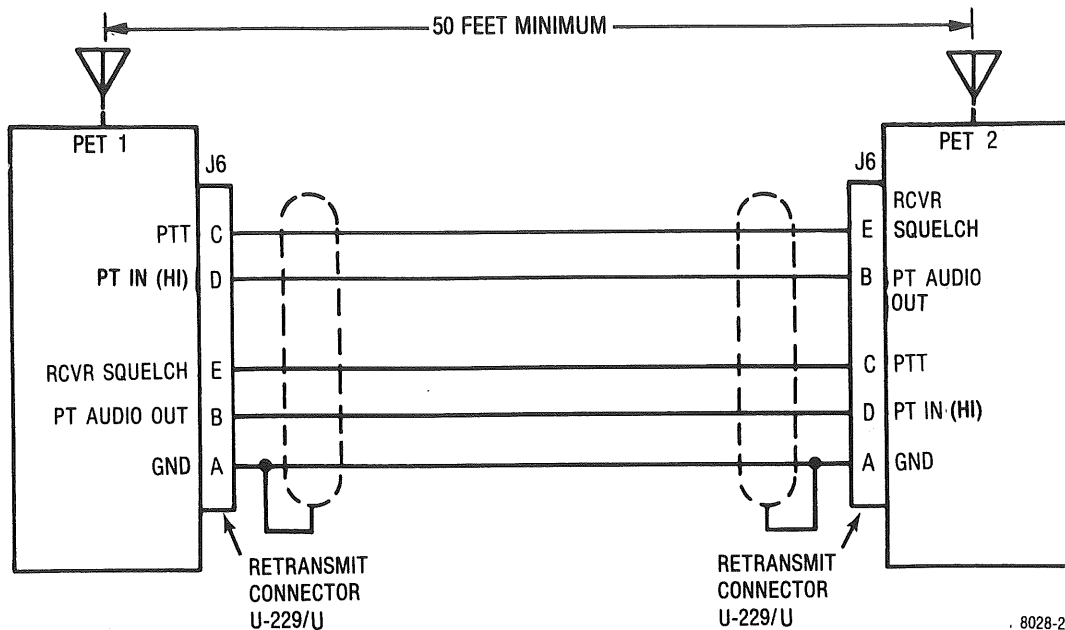

Figure 2-2. PET Relay Operation
- a. Set up two PET transceivers as shown in Figure 2-2.
- g. Adjust the squelch control (SQ) on PET number 1 so that no noise is present when there is no signal being received, but the desired audio can be heard when a signal is received.